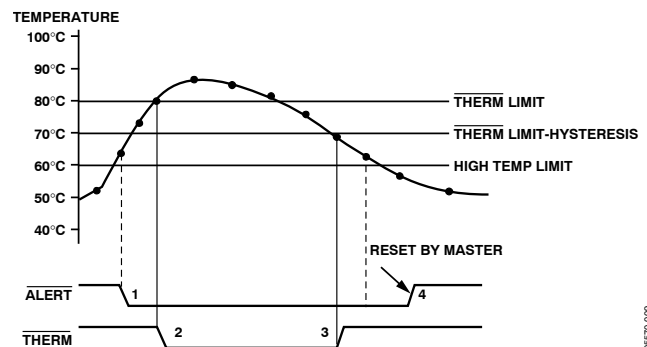

Figure 20. Operation of the ALERT and THERM Outputs
Figure 20 shows how the THERM and ALERT outputs operate. The ALERT output can be used as an SMBALERT to signal to the host via the SMBus that the temperature has risen. If the temperature continues to increase, the THERM output can be used to turn on a fan to cool the system. This method ensures that there is a fail-safe mechanism to cool the system, without the need for host intervention.
- The  $\overline{\text{THERM}}$  output deasserts (goes high) when the temperature falls to  $\overline{\text{THERM}}$  limit minus hysteresis. In Figure 20, the default hysteresis value of 10°C is shown.